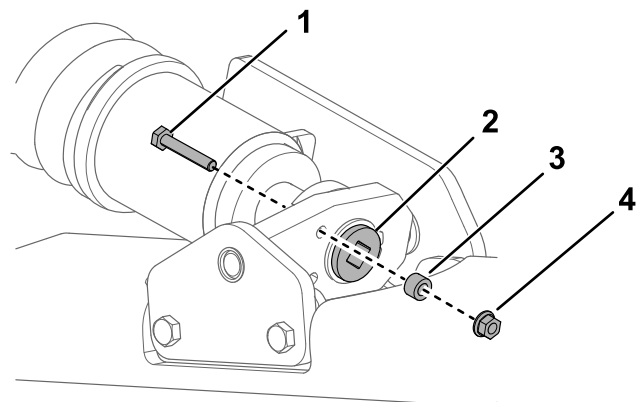
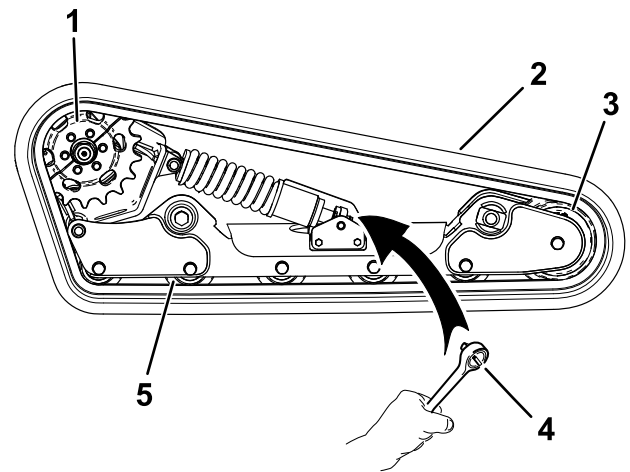

Figure 57
Figure 61
4. Remove the locking bolt, spacer, and nut (Figure 57).
6. Align the closest notch in the tension screw to the locking-bolt hole and secure the screw with the locking bolt and nut (Figure 57).
7. Remove the locking bolt, spacer, and nut (Figure 57).
8. Using a 1/2-inch drive ratchet, release the drive tension by turning the tensioning screw clockwise (Figure 57 and Figure 61).
5. Road wheel (5)
9. Remove the 3 bolts securing the sprocket half that is not engaged with the track (Figure 61).
14. Wrap the new track around the front wheel, then wrap the track around the drive hub on the side without the sprocket (Figure 61).
15. Push the track under and between the road wheels and wrap it around the frame (Figure 61).